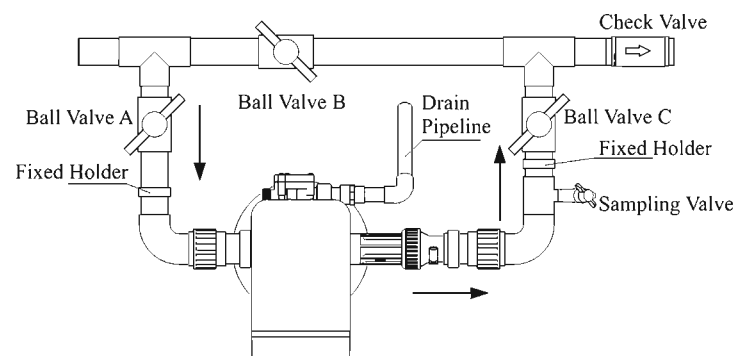

Figure 1-3
④Pipeline connection
a. As figure 1-3 shows, install ball valve A, B, C, sampling valve, check valve in inlet, outlet, inlet pipeline and outlet pipeline.
As figure 1-3 shows, glue the drain outlet with UPVC drain pipeline, put drain outlet pipe to sewer as showed in the Figure 1-4.